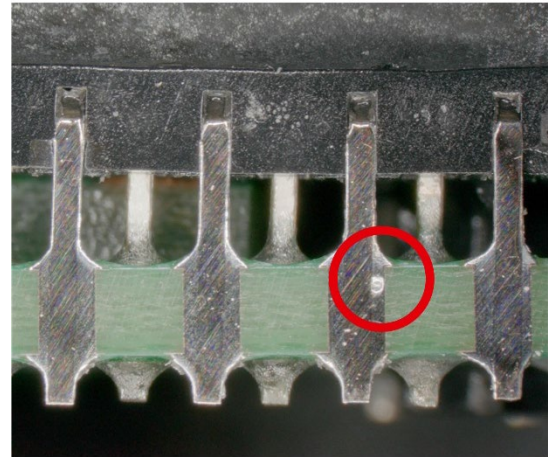

Figure 14: Air cavity (cross section).
- less than 30% air cavities, see Figure 14.